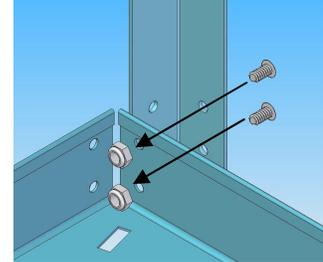

Fig 1.2
- Secure the components with the following hardware on all 4 corners as see on Fig 1.2.